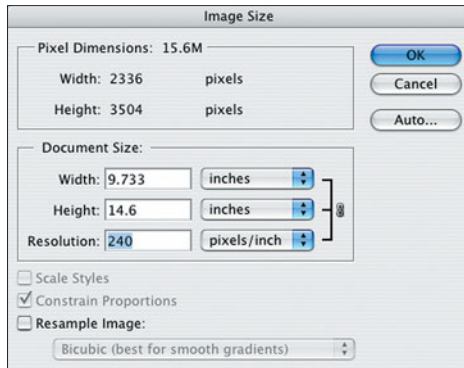

Figure 7.20 When I set the image resolution to 240 ppi without resampling pixels, I get a print size of 9.733 × 14.6 inches.
1. Set the image resolution (see Figure 7.20).